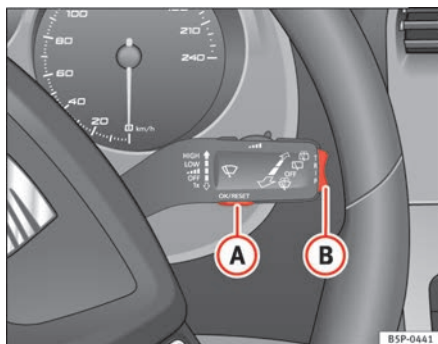
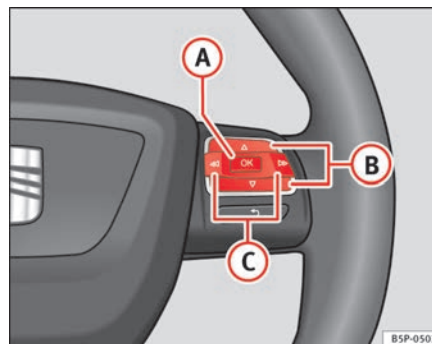

Fig. 43 Windscreen wiper lever: button A to confirm the menu selection and rocker switch B to change the menu
Fig. 44 Steering wheel controls: button A to confirm the menu selection and switch B to change the menu
⇒ page 64, fig. 44 until the menu is displayed. Now you are in this menu.
- To change from one memory to another, briefly press button **A** ⇒ page 64, fig. 43 ⇒ page 64 on the windscreen wiper lever or the **OK** button on the multifunction lever ⇒ page 64, fig. 44 ⇒ page 64 while the ignition is switched on. ▶
The following data can be viewed on the multifunction display using the rocker switch **(B)** ⇒ page 64, fig. 43 ⇒ page 64 on the windscreen wiper lever or by pressing button **(Δ)** or **(▽)** ⇒ page 64, fig. 44 on the multifunction steering wheel*.